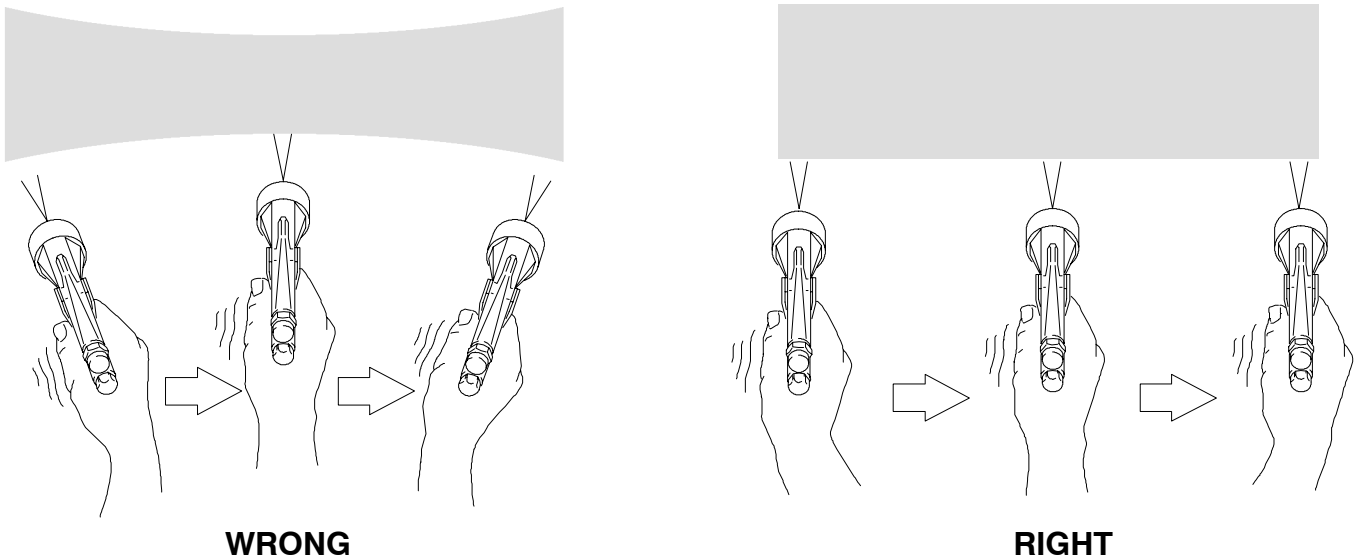

Fig. 7
Always hold the gun at a right angle from the surface. Do not make an arc with the gun as it causes an uneven coat of fluid. See Fig. 7.
1. To achieve the best results when applying fluid, keep the gun perpendicular to the surface and maintain a consistent distance of approximately 8 to 12 inches (200 to 300 mm) from the object being sprayed. See Fig. 7.